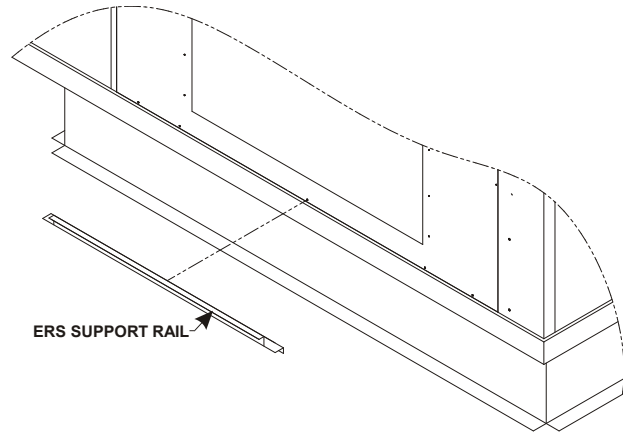

Figure 9
14. Position ERS support rail with notched flange pointing away from rooftop unit. Center ERS support rail by using the center hole of rail and aligning it with the center hole in the base pan of the return opening. Use (5) of the 14-16 x  $\frac{3}{4}$ " screws provided to secure rail to base of unit. Apply  $\frac{3}{4}$ " x  $1\frac{1}{4}$ " gasket along face of the ERS support rail. **See Figure 9.**